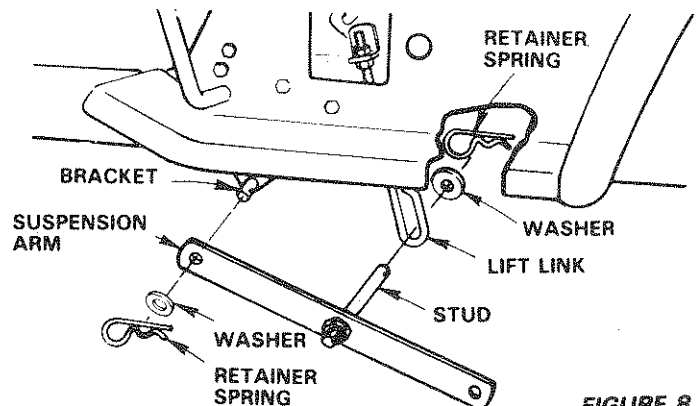

FIGURE 8
- Slide studs through lift links on both sides of tractor (Fig 8). Retain with washers and retainer springs (shown full size on page 6) found in bag of parts.
- Place the suspension arms on brackets on both sides of the frame (Fig. 8). Retain with washers and retainer springs found in bag of parts.